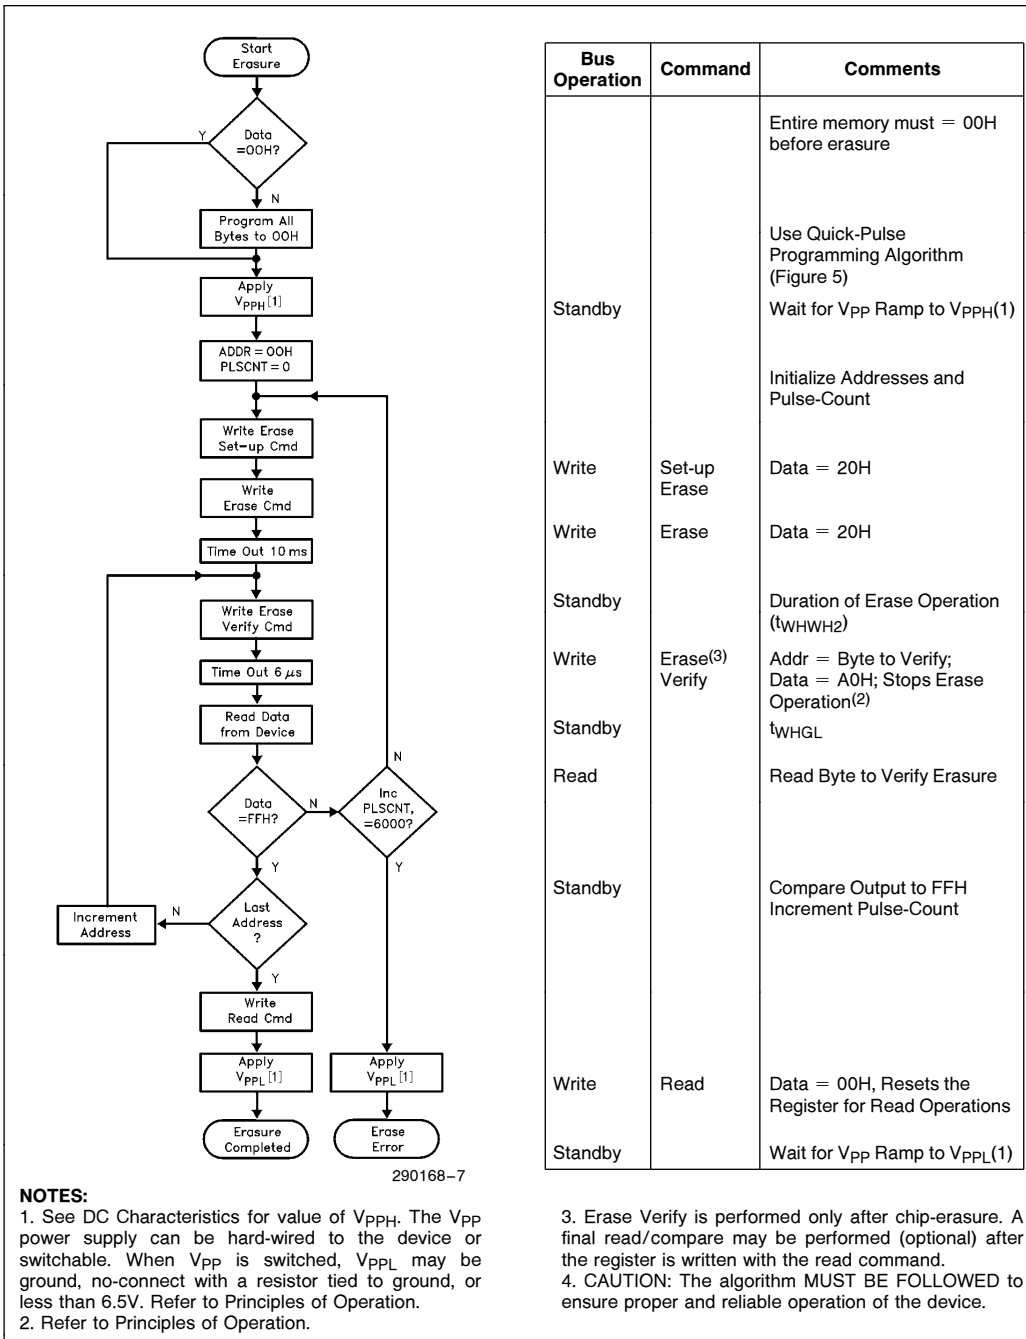

Figure 6. 28F256A Quick-Erase Algorithm
5. Figure 6 illustrates the Quick-Erase Algorithm.
In the case where the data read is not FFH, another erase operation is performed. (Refer to Set-up Erase/Erase). Verification then resumes from the address of the last-verified byte. Once all bytes in the array have been verified, the erase step is complete. The device can be programmed. At this point, the verify operation is terminated by writing a valid command (e.g. Program Set-up) to the command register. Figure 6, the Quick-Erase Algorithm, illustrates how commands and bus operations are combined to perform electrical erasure of the 28F256A. Refer to A.C. Erase Characteristics and Waveforms for specific timing parameters.
Erase execution then continues with an initial erase operation. Erase verification (data = FFH) begins at address 0000H and continues through the array to the last address, or until data other than FFH is encountered. With each erase operation, an increasing number of bytes verify to the erased state. Erase efficiency may be improved by storing the address of the last byte verified in a register. Following the next erase operation, verification starts at that stored address location. Erasure typically occurs in one second. Figure 6 illustrates the Quick-Erase Algorithm.